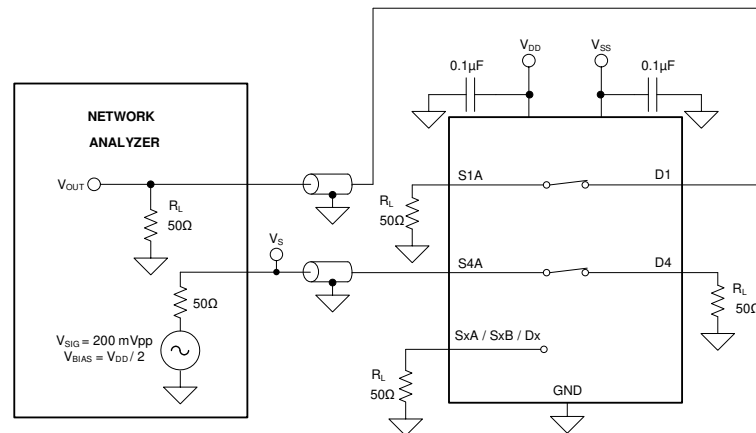

图 7-9. Crosstalk Measurement Setup
Crosstalk is defined as the ratio of the signal at the drain pin (D) of a different channel, when a signal is applied at the source pin (Sx) of an on-channel. 图 7-9 shows the setup used to measure, and the equation used to calculate crosstalk.